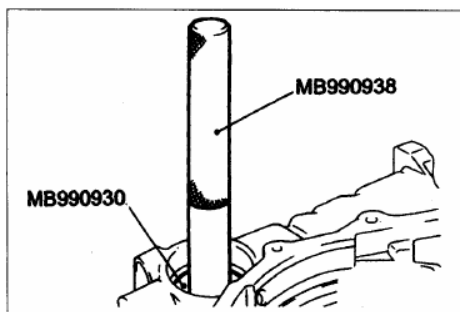

Fig 11A-58
- (1) Use the special tools to tap the output shaft bearing outside race in the transmission case. See Fig. 11A-58.